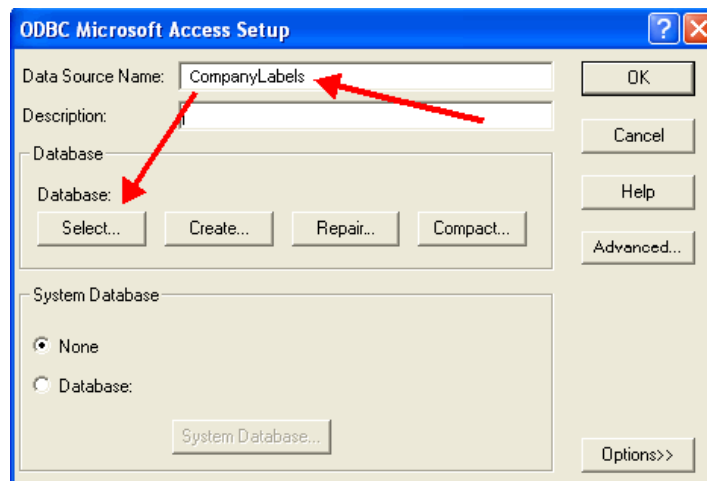

Figure 2-13
2.5.4. Enter a *Data Source Name*. (Figure 2-13) A Data Source Name (*DSN*) is the name that Legitronic uses to connect to your database.
2.5.5. Click [**Select**]. (Figure 2-13)